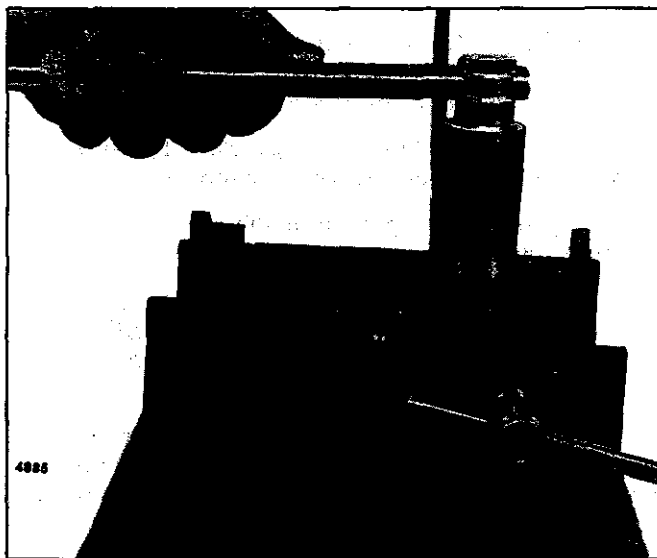

Fig. 13 - Removing Injector Nut Using Tool J 4983-01
4. Using socket J 4983-01, loosen the nut on the injector body (Fig. 13).